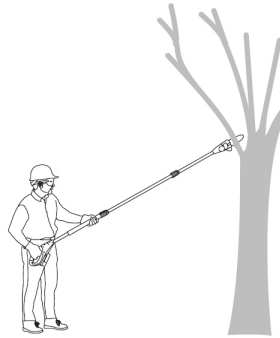

Fig. 12
a). Always hold the product firmly with both hands on gripping surface and handle grip. Never operate this product using only one hand. (See Fig. 12)